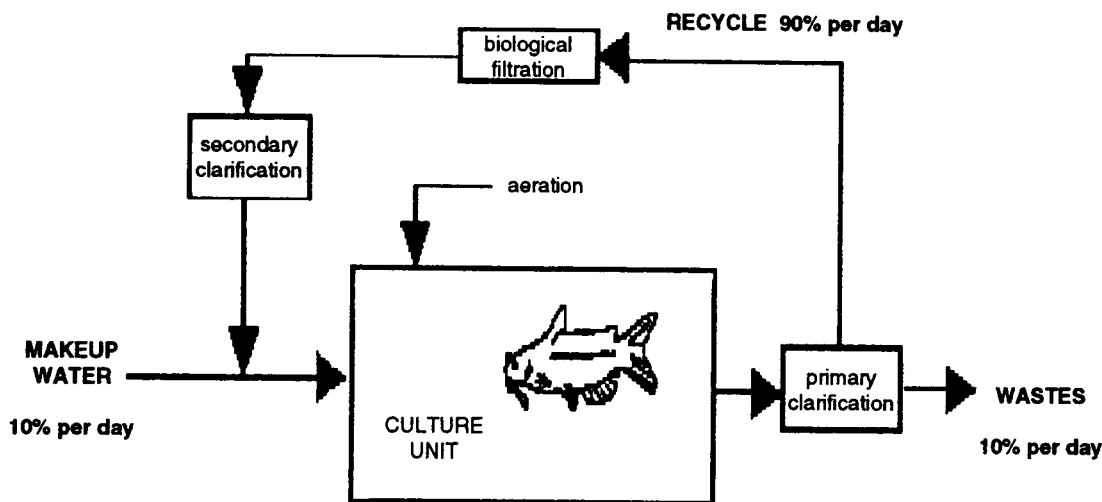

Fig. 10. A recirculating culture system utilizing 90% recycled water per day.
A generic recirculating system is illustrated in Fig. 10. *Primary clarification* includes screening, sedimentation, granular media filtration or a combination of any of the three. It is important to remove solids prior to biological filtration. Biofiltration lowers ammonia and nitrite levels. It is the heart of any recirculating system.
*Secondary clarification* usually follows biological filtration to remove the biological floc that frequently sloughs from the filter media. It is important that this material not be allowed to remain suspended. Secondary clarification includes sedimentation but may also include screening. Finally, aeration is added for basic life support system. The system is driven by a water pump (not shown in Fig. 10).